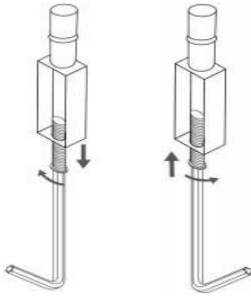

Figure 17
- To loose the stopper, turn the bottom screw on the stopper counter-clockwise using the provided allen key as Figure 17.